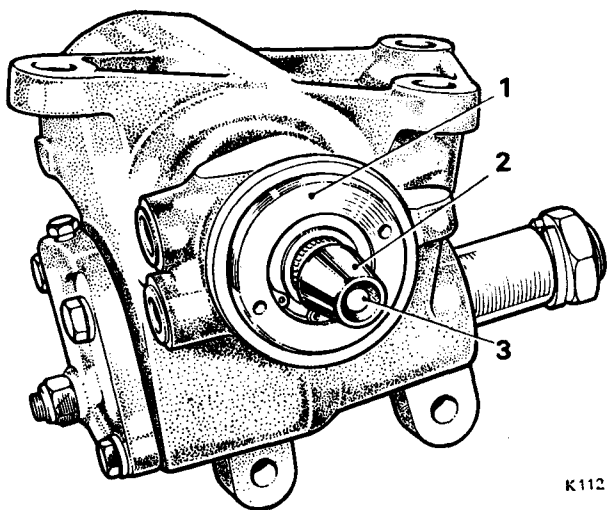

FIG. N35 INSTALLING ADJUSTER PLUG ASSEMBLY
6. Fit the adjuster plug assembly over the end of the stub shaft (*see Fig. N35*), and tighten just sufficiently to make certain that all parts are correctly seated in the housing. Remove the seal protector (RH 7782).